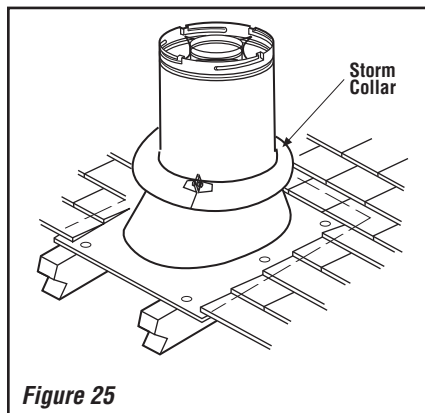

Figure 25
I. Install the roof flashing—Extend the vent sections through the roof structure. Install the roof flashing over the vent section and position such that the vent column rises vertically (use carpenter's level) (**Figure 25**). Nail along perimeter to secure flashing or adjust roofing to overlap the flashing edges at top and sides only and trim where necessary. Seal the top and both sides of the flashing with waterproof caulking.
J. Install the storm collar—Install the storm collar, supplied with the flashing, over the vent/flashing joint. See **Figure 25**. Loosen the storm collar screw. Slide collar down until it meets the top of the flashing. Tighten the adjusting screw. Apply non-combustible caulking or mastic around the circumference of the joint to provide a water tight seal.